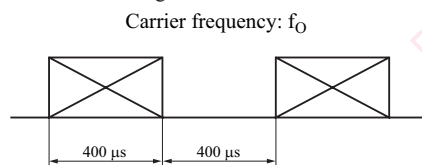

Figure 1
2. *1: Burst wave form figure 1.